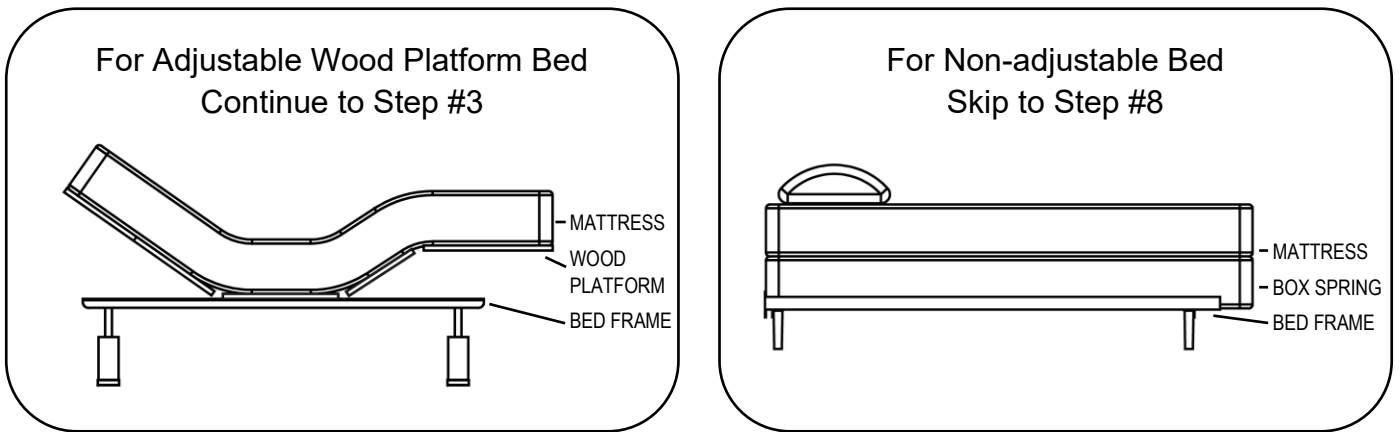

FIGURE 2
2. Determine correct configuration: Adjustable or Non-adjustable bed. See *FIGURE 2*.